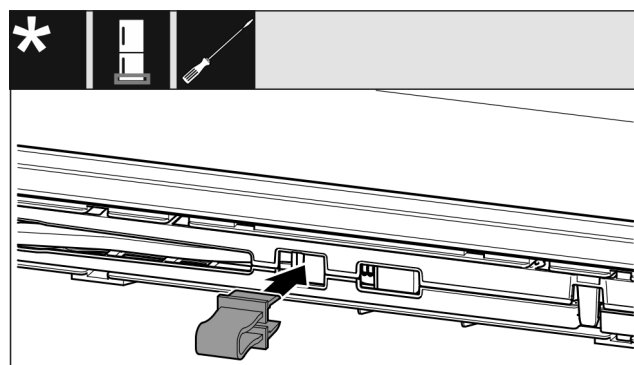

Fig. 18
- Latch safeguard into opening. (see Fig. 18)